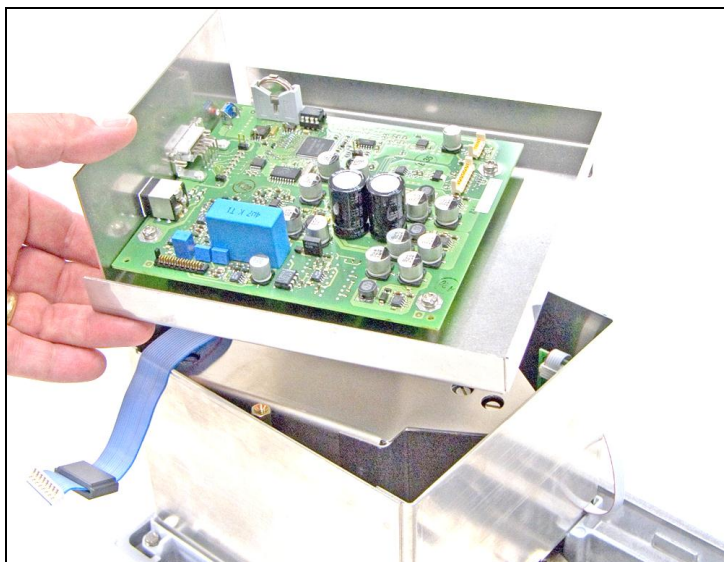

Figure 3-24. Lifting off the PCB and its Mounting Plate from the Load Cell.
9. Lift off the PCB and its Mounting Plate, as shown in Figure 3-24.